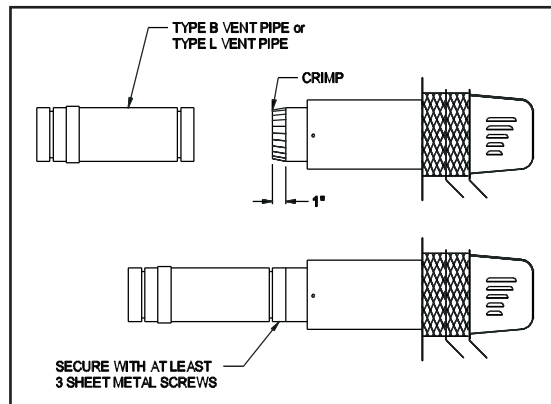

Figure 6
1. Using a hand crimper or a like device, crimp the inner pipe of the SWG power venter approximately 1" long. (See Figure 6)
3. Secure the vent pipe to the SWG power venter inner pipe with at least (3) three #8 sheet metal screws. Pre-drilling the holes through both pipes will allow easier fastening.